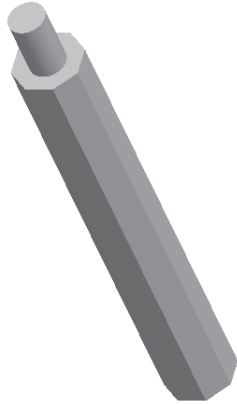

Figure 8-102 Model after creating the cylindrical feature
- The second feature is a cylinder on the top face of the base feature, refer to Figure 8-102.
3. After exiting the sketcher environment, extrude the circle to a depth of 210. The model after creating the cylindrical feature is shown in Figure 8-102.